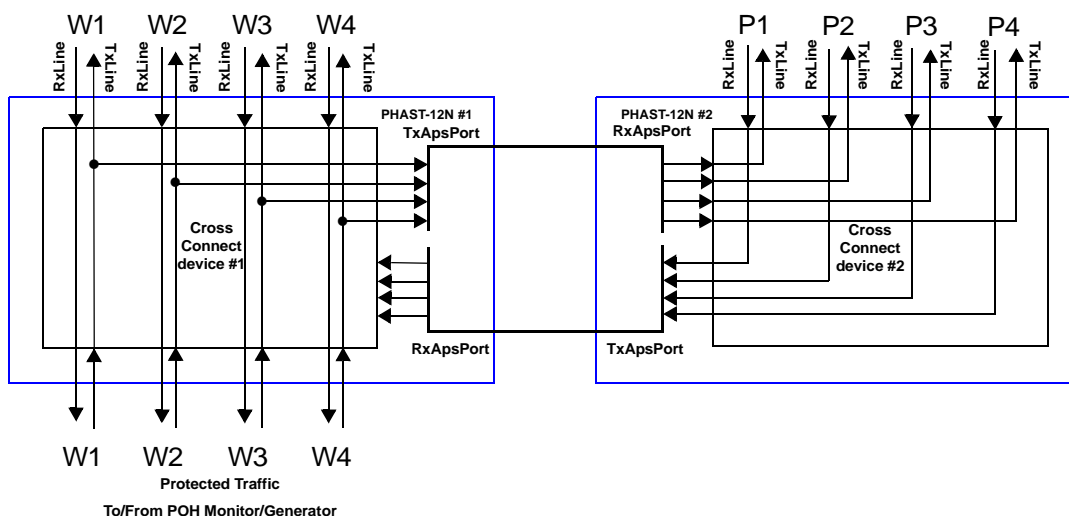

Figure 30. STM-1/OC-3, 1+1 APS Idle State
Figure 30 shows an example of a 1+1 APS protection architecture in STM-1/OC-3 mode using two PHAST-12N devices. One PHAST-12N device handles up to four Worker lines (W) while a second PHAST-12N handles the associated Protection lines (P). Both devices are interconnected through the APS Port interface, using one fourth of the bandwidth per STM-1/OC-3 protection group. The cross connects of both devices setup permanent bridges from the Worker Transmit lines to their Protection Transmit lines over one of the APS Port interfaces. The received protection payload of the four lines is available on the other APS Port interface.